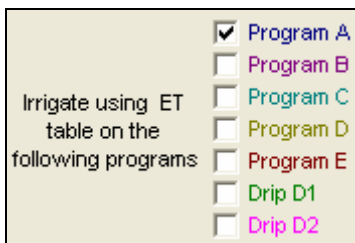

Figure 16.4.8B
- Next check the box next to each program that you want to **Irrigate Using ET table on the following programs** (Figure 16.4.8B).